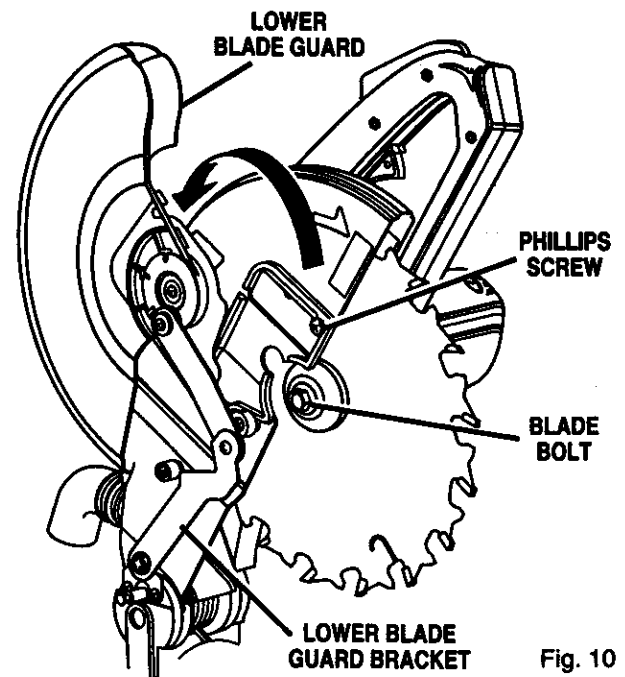

Fig. 10
See Figures 10, 11, and 12.
■ Loosen the phillips screw on the blade bolt cover until blade bolt cover can be raised. See Figure 10.
■ Gently raise the lower blade guard bracket so that the lower blade guard and blade bolt cover can be rotated up and back to expose the blade bolt. See Figures 10.